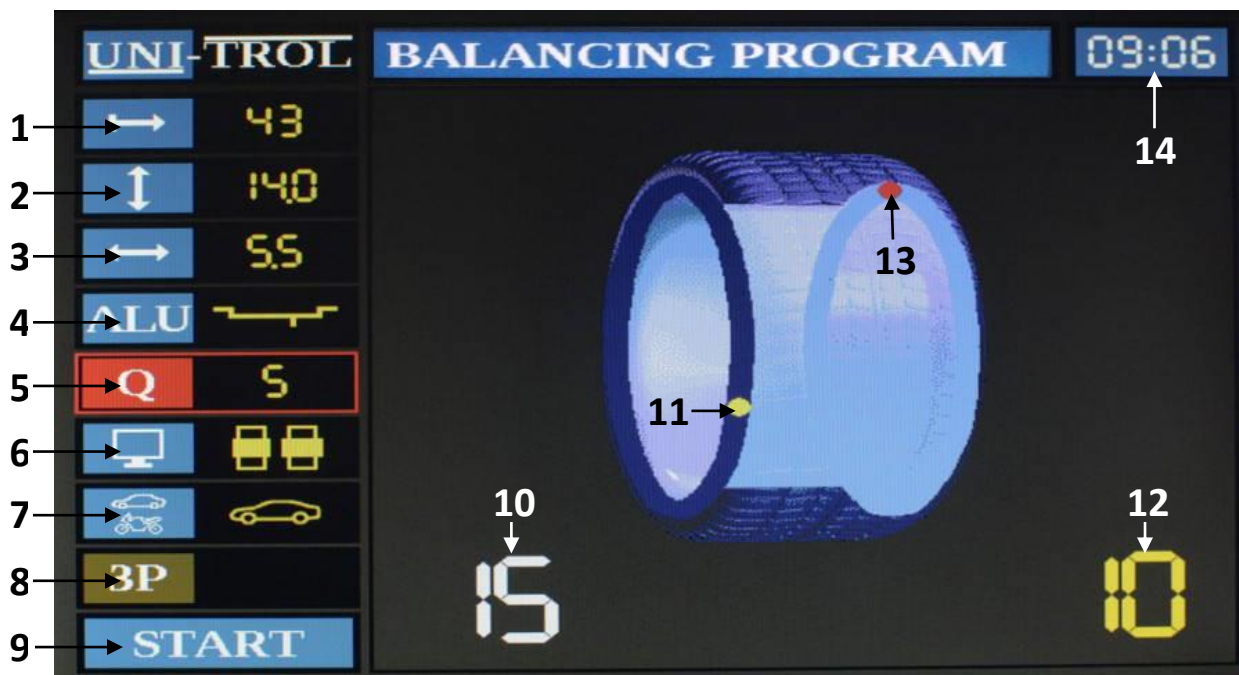
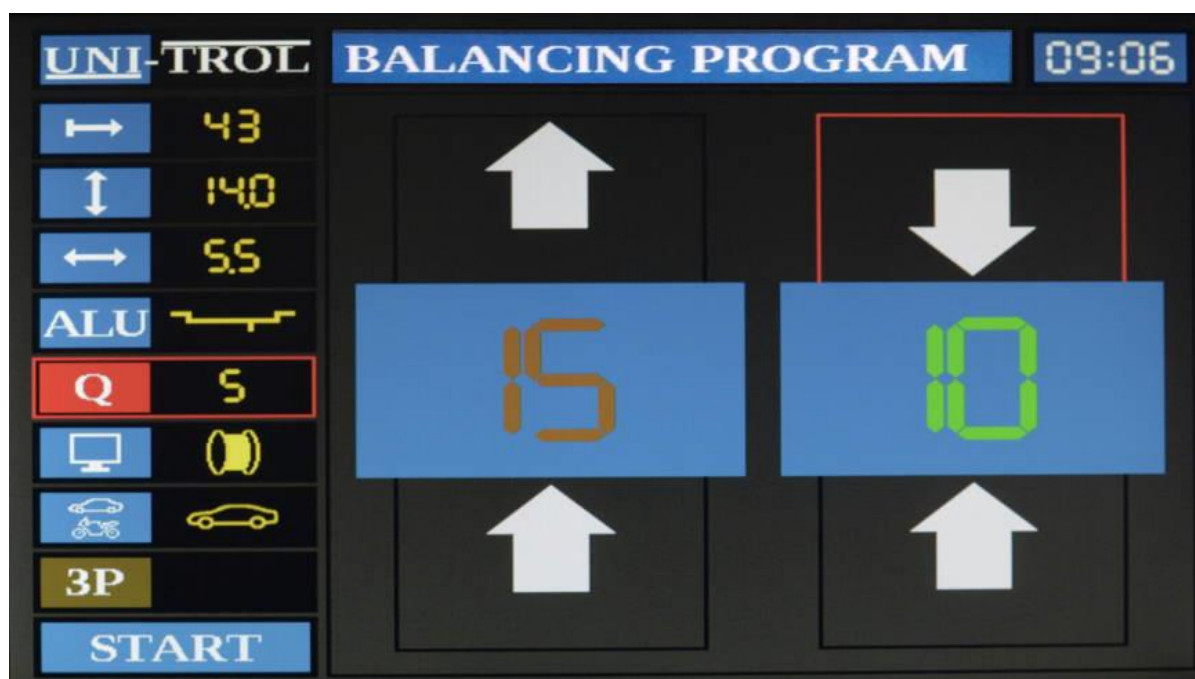

Fig. 6.3 – Balancing program screen.
Fig. 6.4 – Balancing program screen – simplified mode.
The balancing program's screen has been presented in fig. 6.3. The left section contains a menu for setting wheel parameters or alternating measurement properties. Table 6.1 describes all elements of the menu as well as other sections of the screen.
To input wheel's distance to the machine, its diameter and width, use the arrow keys or one of shortcut keys (positions 1-3 in fig. 6.3) to set the cursor position on the chosen element. Next, using the *Plus* and *Minus* keys, set the desired value. After each button press the value will either increase or decrease, which will be signalled with a sound from the speaker. If the button is held for a longer time, the parameter value will change quicker.
In order to select the weight placement mode, use the arrow keys or the ALU shortcut key (4 in fig. 6.3) to set the cursor position. Use the *Plus* and *Minus* keys to set the weight placement mode. After each button push the setting will change, which will be signalled with a sound from the speaker. If the key is held longer, the setting will change more rapidly. Table 6.2 presents all possible weight placement modes for car wheels (numbers 1-5) and two motorcycle wheel modes (numbers 6 and 7).
Threshold level is used for hiding small values of imbalance. Setting a higher threshold increases the machine's tolerance. In order to set threshold level move the cursor to the threshold setting or press the shortcut key (5 in fig. 6.3). Next, using the *Plus* or *Minus* keys, set the desired value. After each key press the value changes, which is also signalled with a sound. If *Plus* or *Minus* is held longer the threshold changes quicker. Available values are 2g, 5g and 10g. When one of there are set, all imbalance values below the threshold are set to 0g.
In order to change the screen mode, move the cursor using up and down arrow keys to position 6 from fig. 6.3. Next, using *Plus* or *Minus* keys, change this option to one of 2 possibilities. Figure 6.3 presents an option with a wheel on the screen and figure 6.4 shows the simplified display mode.
Wheel displaying mode shows imbalance positions using a yellow dot moving around the rim's edge. If the wheel is close to one of the positions of imbalance, the imbalance result changes its colour from white to yellow. If the wheel is exactly at the imbalance position, the dot changes its colour from yellow to red (external plane in fig. 6.3).
In the simplified displaying mode the imbalance position is shown using arrows on the screen as well as the colour intensity of the imbalance value. If both arrows are directed upwards, it means that the wheel has to be revolved forward. If the arrows are both directed downwards, the wheel needs to be reversed. Depending on the colour (and its intensity) of the imbalance value, the greener the colour the closer the wheel is to the imbalance position. The colour becoming more red indicates receding from the imbalance point. If the arrow above imbalance value points downwards and the arrow below imbalance value points upwards (as in fig. 6.4 for external plane), the imbalance position is at the top of the wheel (if the frame on the top changed its colour to red) or at the bottom (if the frame at the bottom changed its colour to red). If both arrows point outwards in opposite directions, the imbalance position is exactly on the other side of the wheel and it has to be rotated 180°.
Depending on the wheel type the operator wishes to balance, the measurement mode should be set. In order to do so, move the cursor using arrow keys to position 7 from fig. 6.3. Next, using *Plus* or *Minus* button, change the measurement mode to one of 2 following values: car wheels or motorcycle wheels. After each key press the value changes, which is also signalled with a sound.
To activate the “hidden weight” program, move the cursor to icon 8 from fig. 6.3 and press *Enter* or directly run the function by pressing the “hidden weight” shortcut button (17 in fig. 2.2). A
**ATTENTION:** As long as icon 8 from fig. 6.3 is brown, the “hidden weight” program is inactive. This program activates automatically only for weight placement modes 4, 5 and 7 and imbalance values above 5g.
The left part with imbalance value corresponds to internal plane of correction and the central part to external correction plane. To choose the first point where the first weight is to be placed, find the current imbalance position by revolving the wheel in the direction pointed by the arrows (downwards in fig. 6.3). If the imbalance position is on the top, the machine signals it with a sound, arrows point inwards and the upper frame becomes red. At this point the machine shows the original imbalance position.
- ✦ Moving the cursor to position 9 from fig. 6.3 and approving by pressing *Enter*.